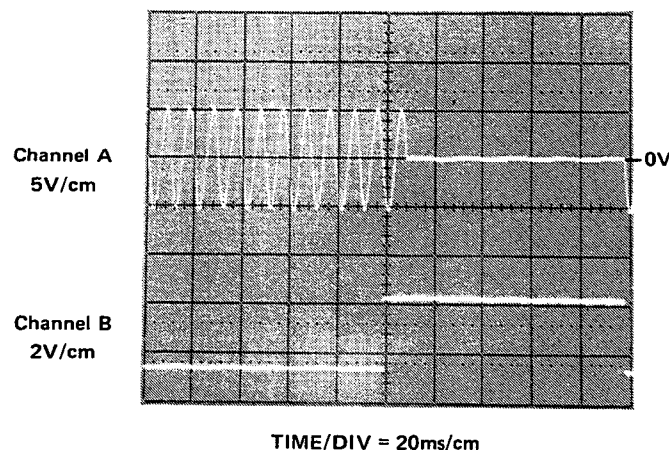

Figure 4-39 Phase Jitter Measurement Averaging Time Waveform Diagram (5Hz Gating Frequency)
46. Adjust the controls of Function Generator A to give a burst of 100Hz frequency displayed on the Oscilloscope (see Figure 4-39).
NOTE:- Adjust the TRIGGER PHASE to give 0V as shown in Figure 4-39. This is best performed by expanding channel A of the oscilloscope and adjusting for 0V. Use the MODULATION RANGE Hz to adjust for 5Hz gating frequency.